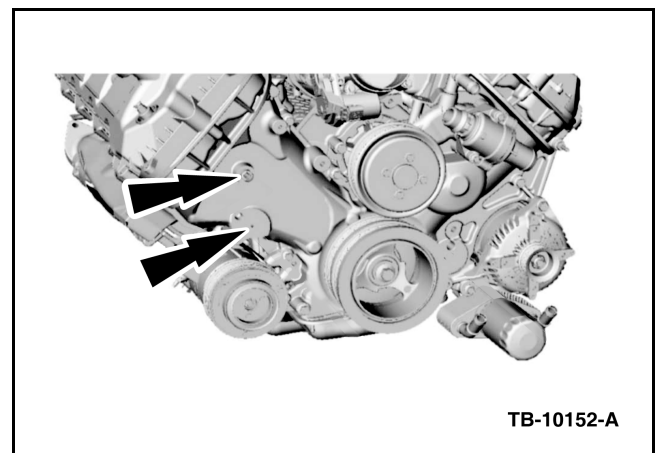

Figure 1 - Article 12-8-14
b. If engine build date is after 4/15/2011, do not replace the engine front cover. Use an 8 X 1.25 mm tap to clean the mounting locations noted on the engine front cover. (Figure 1) Use compressed air to clean any remaining debris.
- (1) For vehicles equipped with an automatic transmission, proceed to Step 5.
- (2) For vehicles equipped with a manual transmission, proceed to Step 6.